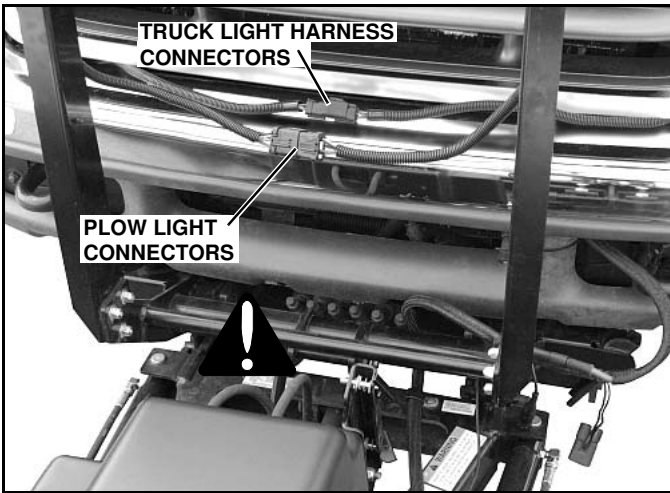

Figure 1-26
3. To prevent corrosion on the contacts, plug the male and female connectors on the plow together. (See Figure 1-26)
4. To make the truck lights operable, plug the male and female connectors on the truck light harness together. (See Figure 1-26)